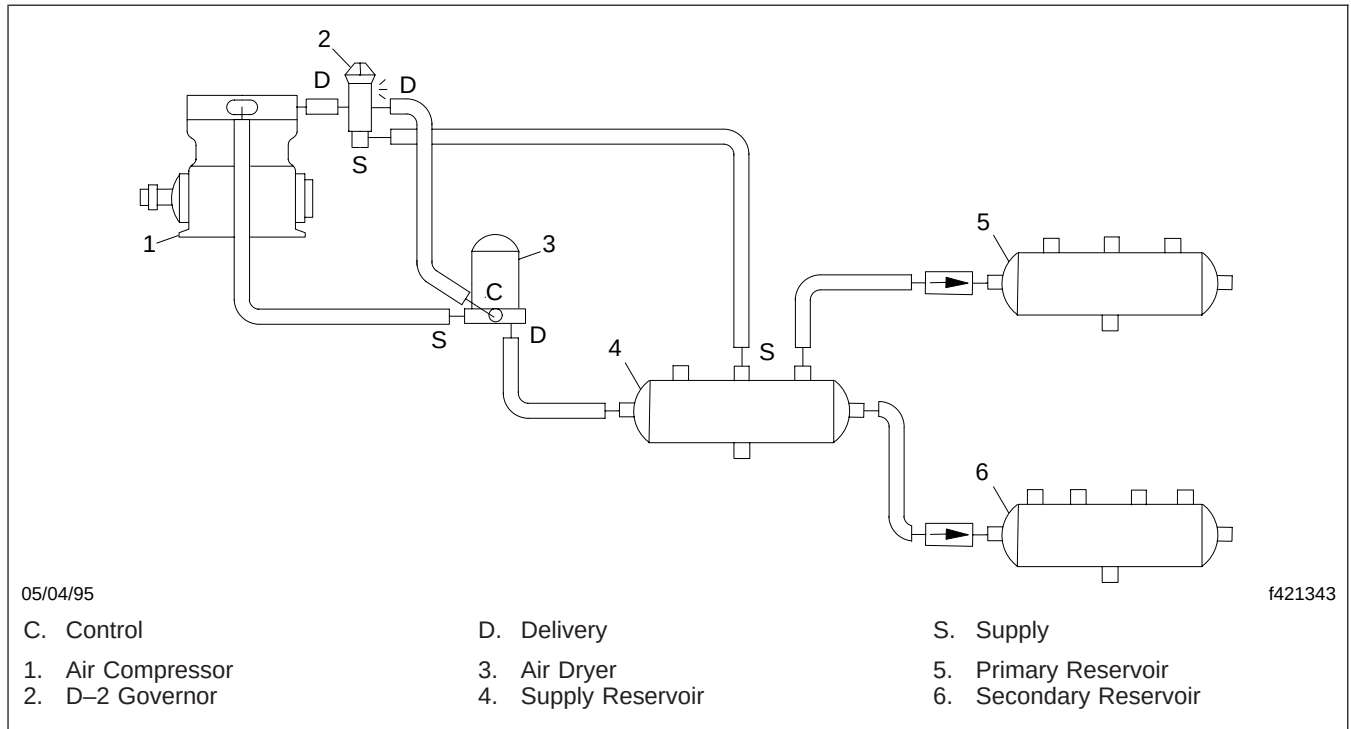

Fig. 2, Standard Air Dryer Plumbing Diagram
- Standard Air Dryer (see Fig. 2):